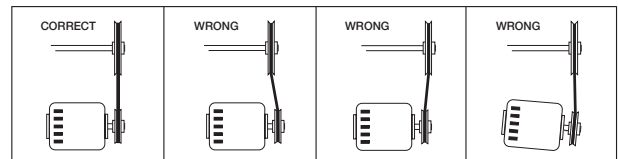

Figure 8
8. If adjustments are made, it is very important to check the pulleys for proper alignment. Misaligned pulleys lead to excessive belt wear, vibration, noise and power loss, see Figure 8.